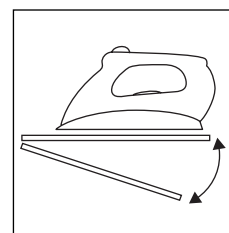

fig. 2
- For ease of access you may wish to place the iron rest in a raised, horizontal position (fig.2). To do this simply lift the rest up and place the end firmly on top of the control panel.